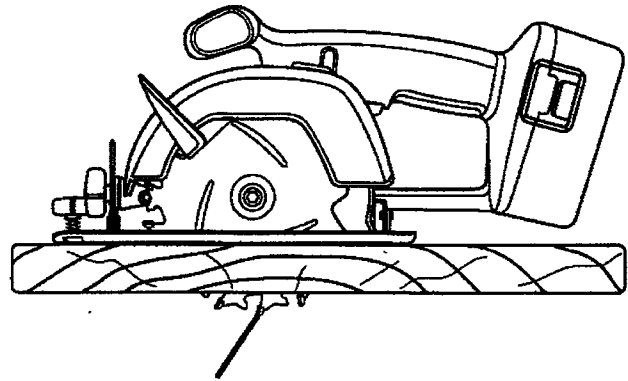

Fig. 9
- Always keep the correct blade depth setting – the correct blade depth setting for all cuts should not exceed 1/4 in. below the material to be cut. See Figure 9. One blade tooth below the material to be cut works best for most efficient cutting action.